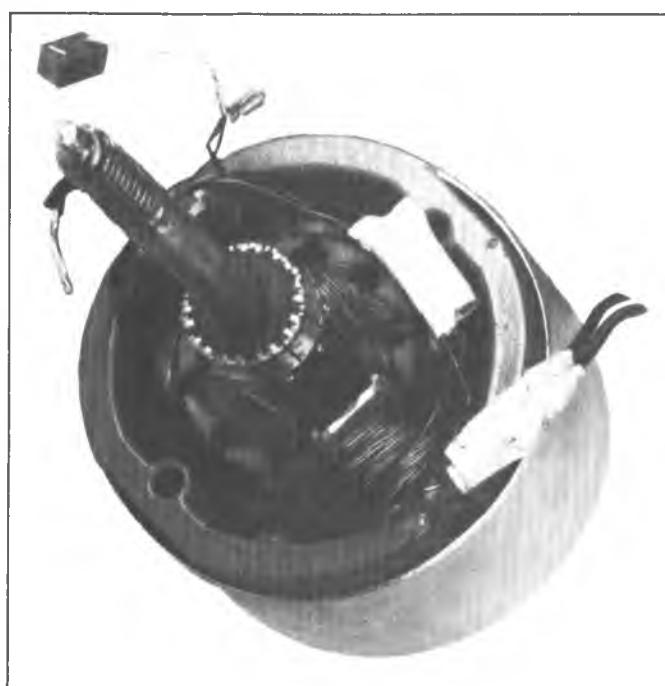

Fig. 32-Armature Installation
4. Assemble armature in the case and field assembly (fig. 32).